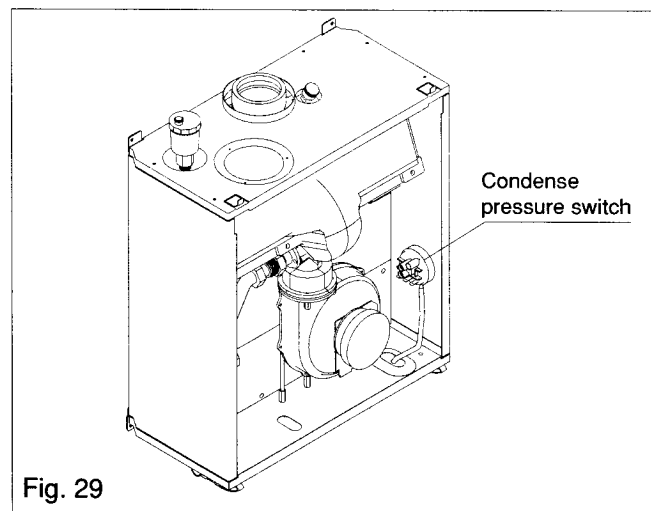

Fig. 29
6.20 CONDENSE PRESSURE SWITCH (see fig. 29)